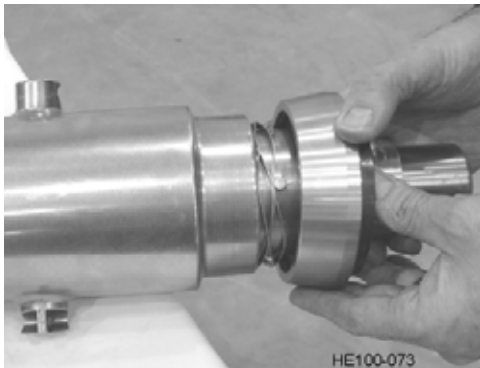

Figure 27 - Mechanical Seal Installation
3. Install mechanical seal on drive end of shaft as shown in Figure 27. See “Mechanical Seal Maintenance” on page 52.